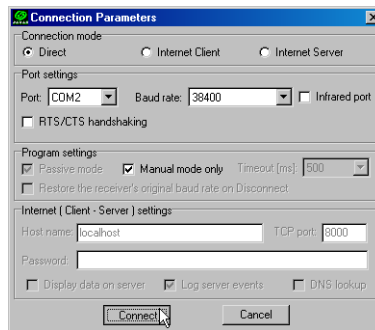

Figure 2-35. Connection Parameters – Manual Mode Only
19. On the Connection Parameters screen, select a baud rate of 38400 and enable the Manual mode only check box (Figure 2-35), then click **Connect**.